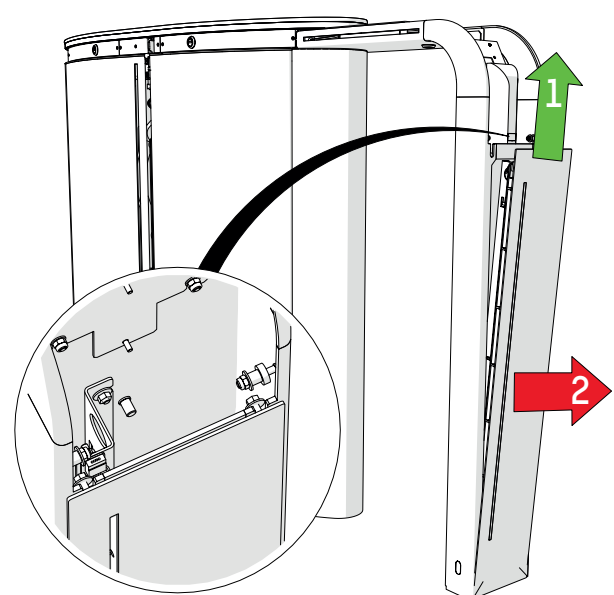

Fig. 81 - Removing the extension front panel
3. Remove the front panel of the extension (⇒ Fig. 81):
- Slightly unscrew the two (2) nuts with integrated lock washers so that the front panel can be removed:
4. Remove the front panel of the extension (⇒ Fig. 81, page 72):
5. Unscrew the two nuts and remove the washers from the two (2) fixing points located in the foot of the extension frame, as shown in detail **A** in the figure below;